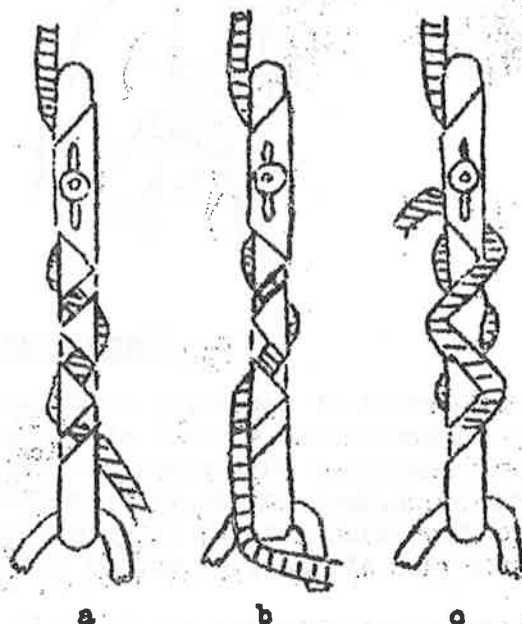

Fig. 32 Using the Whaletail
3. The gate can be used to stop in safety on abseil (see Fig. 32 c). Provided the rope is wound tightly back up the descender. This is useful for resting, bolting, untangling rope etc.